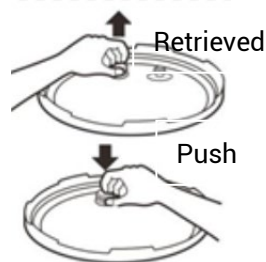

Figure 18
2. Use a non-abrasive sponge or damp cloth to clean the outer body (13). NEVER immerse the outer body (13) in any liquid or pour liquid into it.
3. Remove the condensation container (12), rinse thoroughly and leave to dry. Clean the inner main body (13) and the upper ring (9) with a damp sponge or cloth.
4. Remove the pressure relief valve (3) by grasping and pulling firmly upwards. Rinse with warm water and pat dry.
5. Clean the lid (2) with warm soapy water, including the rubber sealing ring (18), filter (17), valve, safety valve (4) and allow to dry thoroughly.
6. There is a small metal filter (17) on the underside of the lid below the pressure relief valve (3) that can be easily removed for cleaning (Figure 18).
8. Wash the inner pot (6), the grid (20) and the tempered glass lid (21) with a non-abrasive sponge and allow to air dry or use a cloth.
- Remove the filter (17) by pulling vertically and clean it. To reattach the filter, simply put the filter (17) on and push down to secure it (Figure 18).